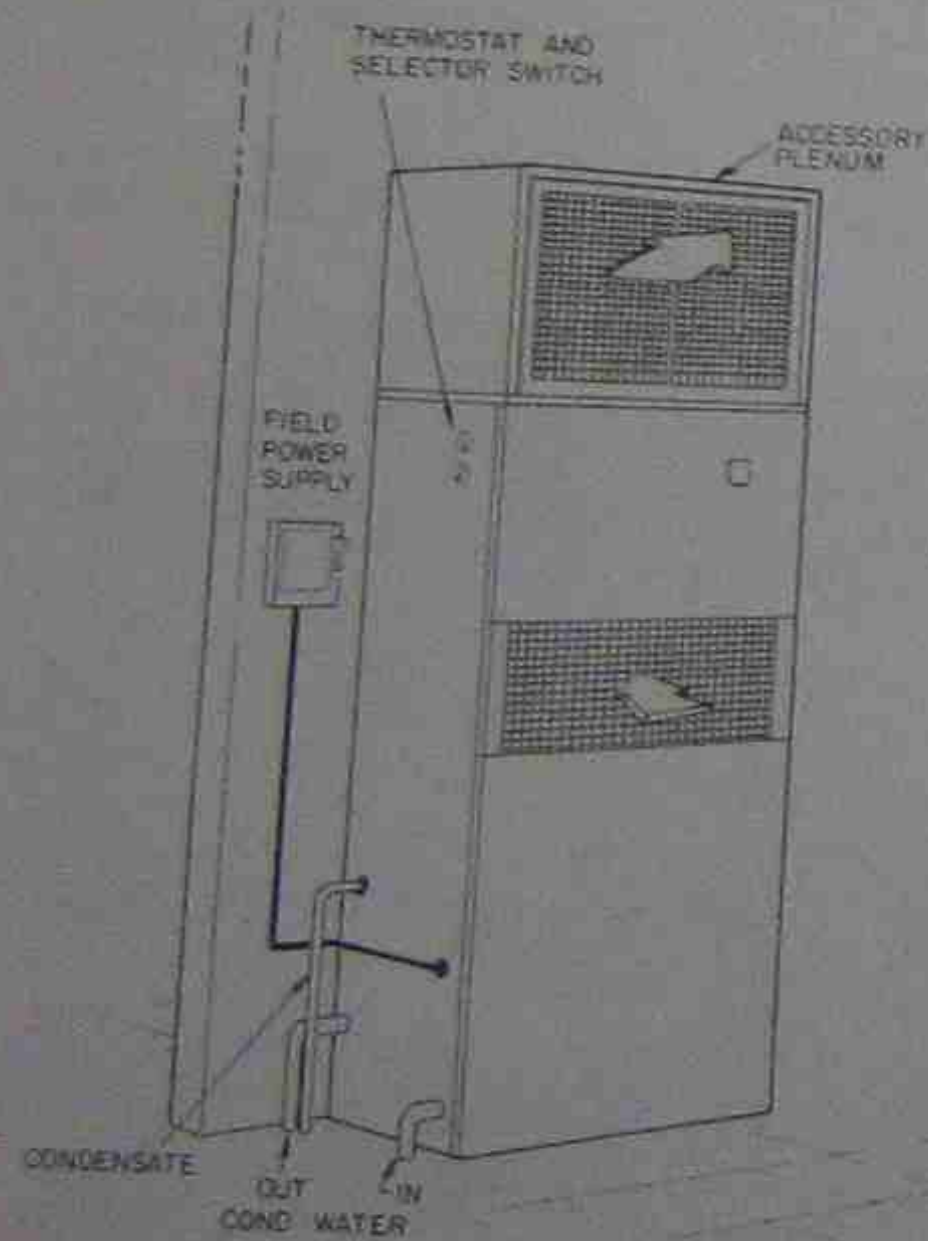

Figure 40-14. Air-to-water package unit. *Reproduced courtesy of Carrier Corporation*
2. Air to water describes the unit in Figure 40-14. This system absorbs heat out of the conditioned space air and rejects the heat into water. The water is wasted or passed through a cooling tower to reject the heat to the atmosphere. This system is sometimes called a water-cooled package unit.